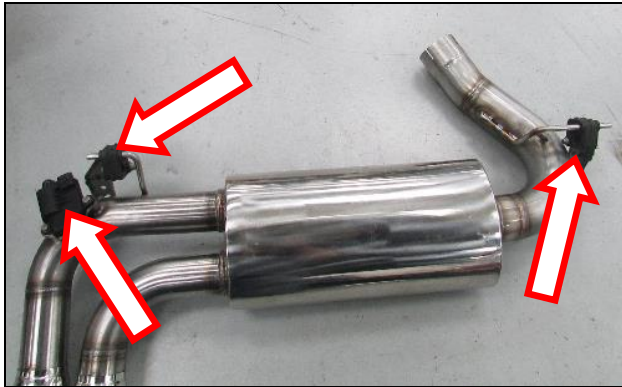

Figure 6
1. Remove the OE hangers and exhaust valve off the OE muffler and transfer to the Hooker Blackheart muffler (**Figure 6**).